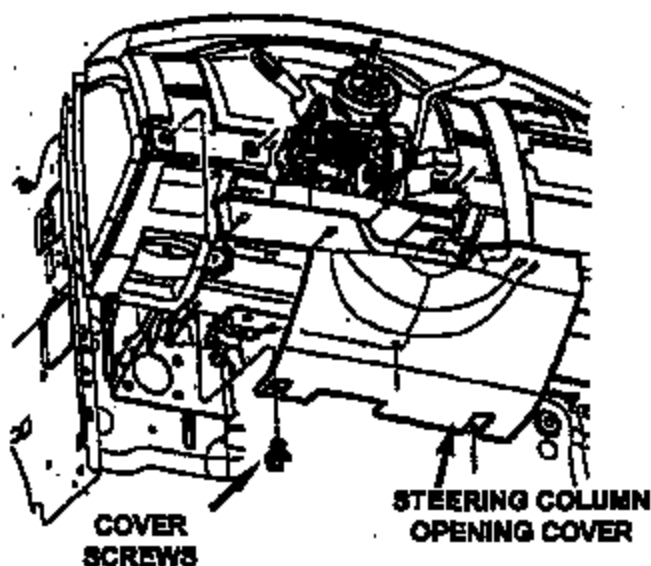
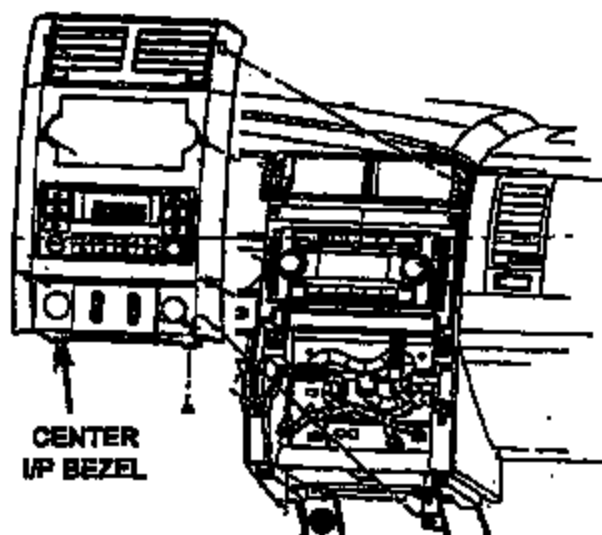

Figure 1
Figure 2
2. Remove the two (2) steering column opening cover screws and then remove the cover (Figure 1).
3. Remove the two (2) upper steering column shroud screws and then remove the upper shroud.
5. Loosen the two center instrument panel (I/P) bezel screws and then remove the center bezel (Figure 2).
29. Install the center I/P bezel and tighten the two (2) bezel screws (Figure 2).
31. Install the steering column opening cover and then install the two (2) cover screws (Figure 1).